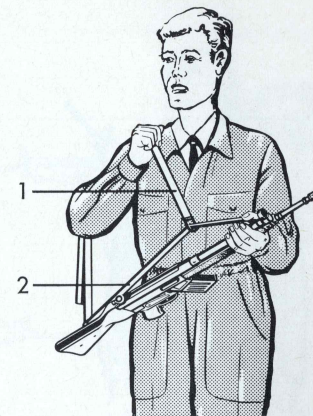

Fig. 45
When slinging the rifle (Fig. 45), one half of the sling (1) should extend over the shooter's back, with the other half (2) resting across his chest.